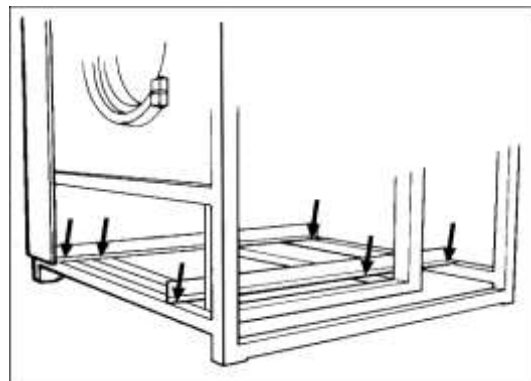

Fig. 2.8
- Locate on the chassis base the two yellow fixing profiles and dismantle them. The profiles are secured with screws (Fig. 2.8)